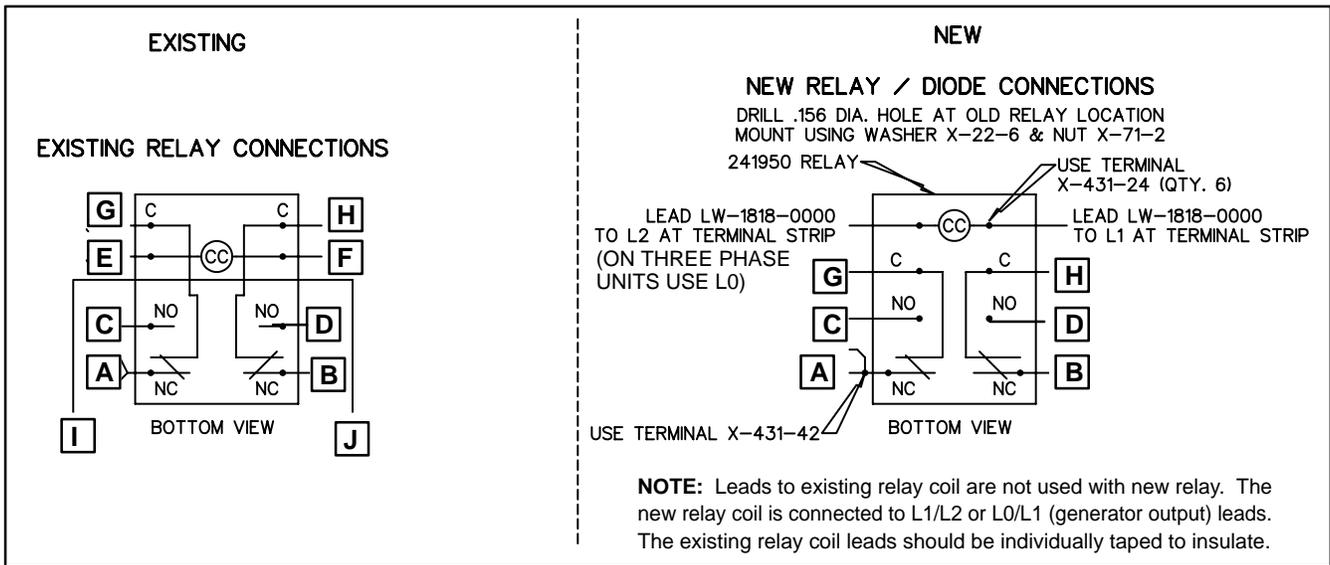

Figure 6. Wiring Diagram for CC Relay
3. Examine existing CC relay and compare to the illustration in Figure 6. Identify the leads using the letters shown in Figure 6. Do this using masking tape or some other means to properly identify each lead.
7. Drill one 0.156 in. (4 mm) dia. hole to mount new relay. See Figure 6 for drilling instructions. Location should be as near as possible to old relay location.
12. Connect remaining controller leads to relay using Figure 6 and appropriate wiring diagram.